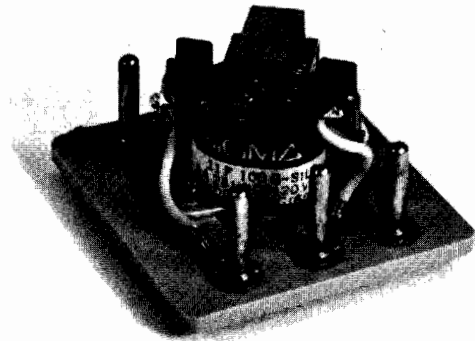

Fig. 6-4-1
1. Remove mounted relay from storage cabinet and place it on a circuit construction board as in Fig. 6-4-1.
5. Label these two terminals in Fig. 6-4-1 as N.O. or N.C.